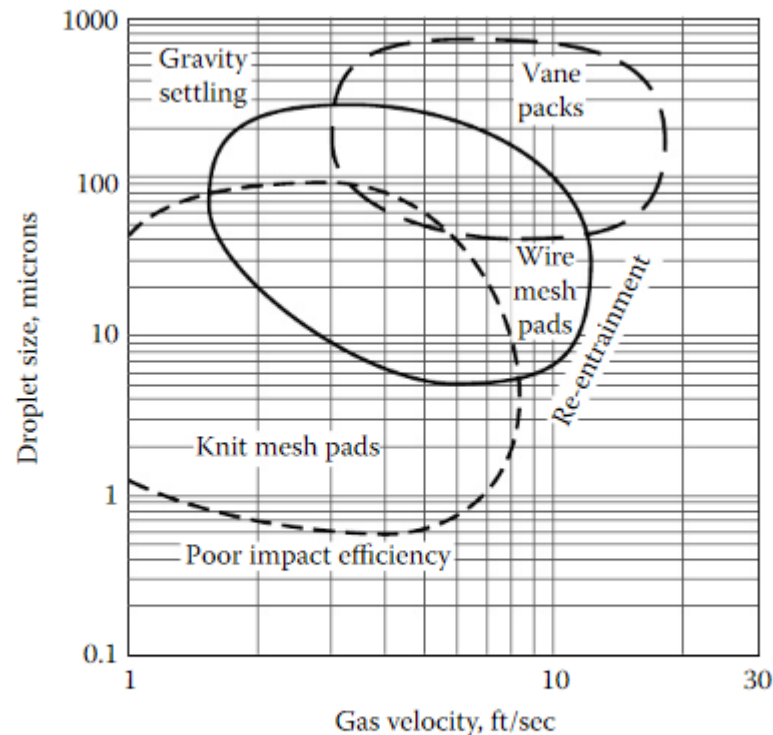

FIGURE 3.13 Approximate operating ranges for different kinds of demisters. Data are based upon water and air. (Courtesy of ACS Industries, 2005.)
- Figure 3.13 shows qualitatively the range for mist pads and vane packs. The data are based upon an air-water system and differs from natural gas data because of density and surface tension.
- Figure 3.13 shows the regions where each demister type is effective.